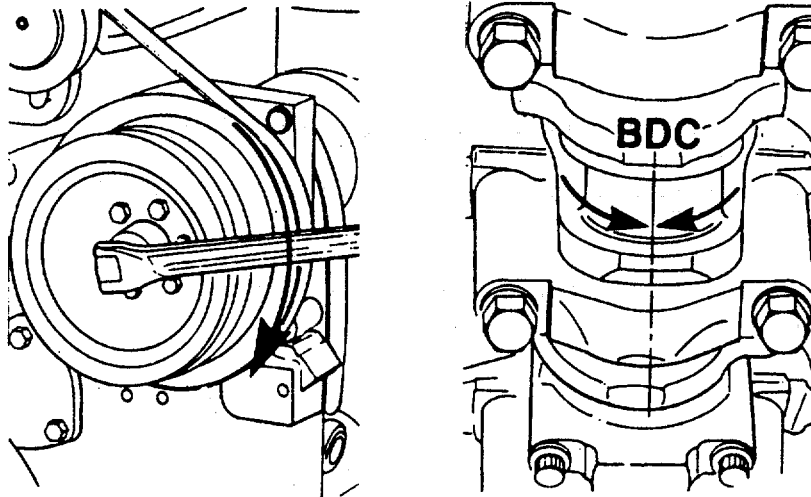

FIGURE 3-56. *Rotating Crankshaft.*
- a. Rotate the crankshaft to position two of the connecting rods at Bottom Dead Center (BDC) (Figure 3-56).